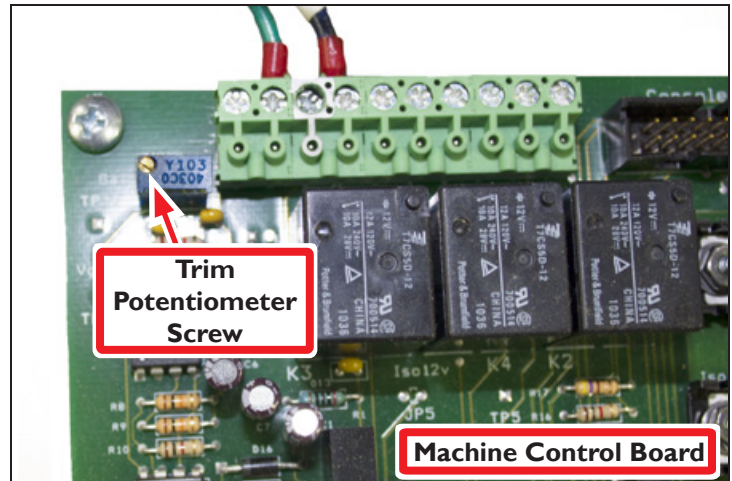

Figure 8
- If the value is outside of the 34-36 Hz range, use a small, flat-blade screwdriver to adjust the trim potentiometer screw on the machine control board (see **Figure 8**) until the value is within range.